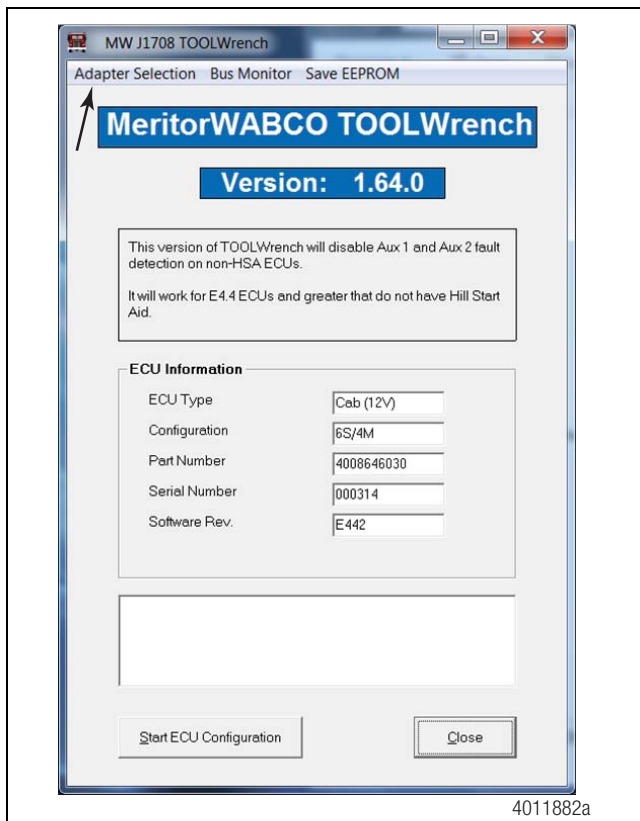

Figure 2
- When running this software, verify you are using the correct device and protocol. If you are not sure, use the selection screen for Diagnostic Interfaces by selecting the Adapter Selection menu in the top toolbar of the TOOLWrench application. Figure 2.